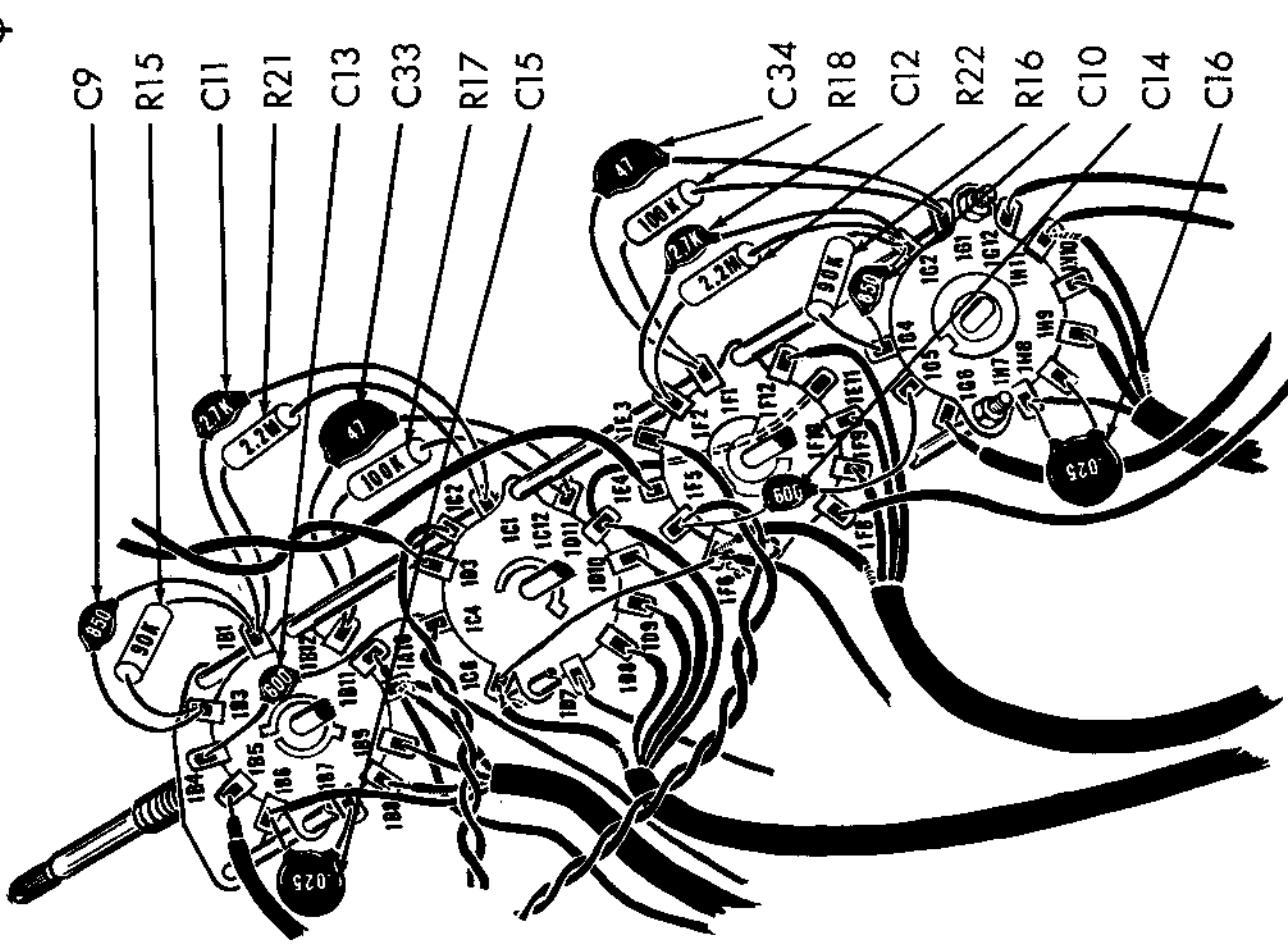

Fig. 1
1. ( ) Fig. 1. Cut all leads on two .025 mfd (.25K or 25,000 mmf) disc capacitors, C15 and C16, to  $\frac{3}{4}$ ". Cover each lead with a  $\frac{1}{2}$ " piece of spaghetti. Connect C15 from S1B-6 (Q) to S1B-7 (S). Connect C16 from S1H-7 (Q) to S1H-8 (S).
2. ( ) Fig. 1. Cut all leads on two 90K $\Omega$  (white, black, orange, gold) 5% resistors, R15 and R16, to  $\frac{1}{2}$ ". Connect R15 from S1B-3 (Q) to S1B-1 (Q). Connect R16 from S1G-2 (Q) to S1G-4 (S).
3. ( ) Fig. 1. Cut all leads on two 850 mmf disc capacitors, C9 and C10, to  $\frac{3}{4}$ ". Connect C9 from S1B-3 (S2) to S1B-1 (Q). Connect C10 from S1G-2 (Q) to S1G-4 (S2).
4. ( ) Fig. 1. Cut all leads on two 2.2M $\Omega$  (red, red, green, silver) 10% resistors, R21 and R22, to  $\frac{1}{2}$ ". Connect R21 from S1B-1 (Q) to S1C-1 (S). Connect R22 from S1F-2 (Q) to S1G-2 (Q).
5. ( ) Fig. 1. Cut all leads on two .0027 mfd (.2.7K or 2700 mmf) disc capacitors, R17 and C12, to  $\frac{1}{2}$ ". Cover each lead with a  $\frac{1}{4}$ " piece of spaghetti. Connect C11 from S1B-1 (S4) to S1C-1 (S2). Connect C12 from S1F-1 (Q) to S1G-1 (Q).
6. ( ) Fig. 1. Cut all leads on two 100K $\Omega$  (brown, black, yellow, silver) 10% resistors, R17 and R18, to  $\frac{1}{2}$ ". Connect R17 from S1B-12 (S2) to S1C-12 (Q). Connect R18 from S1F-1 (Q) to S1G-1 (S2).
7. ( ) Fig. 1. Cut all leads on two 47 mmf disc capacitors, C33 and C34, to  $\frac{3}{4}$ ". Connect C33 from S1B-12 (S2) to S1C-12 (S2). Connect C34 from S1F-1 (S2) to S1G-1 (S2).
8. ( ) Fig. 1. Cut all leads on two 600 mmf disc capacitors, C13 and C14, to  $\frac{3}{4}$ ". Connect C13 from S1B-4 (S1) to S1C-4 (Q). Connect C14 from
9. ( ) Fig. 1. Strip back the outer insulation 1 1/2" from one end of an 8" piece of 3 conductor shielded cable. Twist the shield strands together and cover with a 1 1/4" piece of thick spaghetti. Cut the brown lead to 1 1/4", the red lead to 3/4", and the orange lead to 1". Strip back the insulation 1/4" from the end of each of these leads. Connect the brown lead to S1B-6 (S2), the red lead to S1B-8 (S1), the orange lead to S1B-9 (S1) and the twisted shield strands to S1A-10 (S2). On the other end of the same piece of shielded cable, strip the outer insulation back 3/4". Strip back the insulation 1/4" from the end of each of the inner conductors. This end of the cable does not get connected until later.
10. ( ) Fig. 1. Connect one end of a 3 1/2" piece of black wire to S1A-10 (S2).
11. ( ) Fig. 1. Strip back the outer insulation 1 3/4" from one end of an 8" piece of the 4 conductor shielded cable. Twist the shield strands together and cover with a 1 1/2" piece of thick spaghetti. Cut the brown, red and orange leads to 3/4", each and the yellow lead to 1 1/4". Strip back the insulation 1/4" from the end of each of these leads. Connect the brown lead to S1D-8 (S2), the red lead to S1D-9 (S2), the orange lead to S1D-10 (S2) and the yellow lead to S1D-11 (S2). Connect a 1" piece of bare wire from S1D-11 (S2) to S1E-11 (S2). Connect the twisted shield strands to S1C-6 (S2). On the other end of the same piece of shielded cable, strip the outer insulation back 1 1/4". Strip the shield strands, cut to 3/4" and cover with 1/2" piece of spaghetti. Cut the red, brown, orange, and yellow leads to 1". Strip back the insulation 1/4" from the end of each of the inner conductors. This end of the cable does not get connected until later.
12. ( ) Fig. 1. Strip back the insulation 1 3/4" from one end of a 6 1/2" piece of 3 conductor shield cable. Twist the shield strands together and cover with a 1 1/2" piece of thick spaghetti. Cut the brown and red leads to 3/4", and the orange lead to 1". Strip back the insulation 1/4" from the end of each of these leads. Connect the orange lead to S1F-12 (S2), the red lead to S1F-10 (S2), the brown lead to S1F-9 (S2) and the twisted shield strands to S1F-6 (S2). On the other end of the same piece of shielded cable, strip the outer insulation back 1 1/4". Strip back the insulation 1/4" from the end of each of the orange lead to 3/4" and the brown lead to 1". Cover shield strands with 1/2" piece of spaghetti. Strip back the insulation 1/4" from the end of each of the inner conductors. This end of the cable does not get connected until later.
13. ( ) Fig. 1. Connect one end of a 4 1/2" piece of black wire to S1F-6 (S2).
14. ( ) Fig. 1. Connect a 1 1/2" piece of bare wire from S1C-6 (S2) to S1F-6 (S2).
15. ( ) Fig. 1. Strip back the outer insulation 1 1/4" from one end of a 6 1/2" piece of 3 conductor shield cable. Twist the shield strands together,
16. ( ) Fig. 1. Connect one end of a 4" piece of black wire to S1B-11 (S2).
17. ( ) Fig. 1. Connect one end of a 2 1/2" piece of grey wire to S1B-11 (S2).
18. ( ) Fig. 1. On one end of a 4" piece of single conductor shielded cable, strip the outer insulating back 1/2". Strip back the shield strands together and cut off. Strip back the inner insulation 1/4" and connect to S1B-5 (S2). On the other end of the same piece of shielded cable, strip back the outer insulation 3/4". Strip back the inner insulation 1/4". This end of the cable does not get connected until later.
19. ( ) Fig. 1. Connect one end of a 4" piece of brown wire to S1D-7 (S2).
20. ( ) Fig. 1. Connect one end of a 3" piece of brown wire to S1F-8 (S2).
21. ( ) Fig. 1. On one of a 3" piece of single conductor shielded cable, strip the outer insulated back 1/2". Strip back the shield strands together and cut off. Strip back the inner insulation 1/4" and connect to S1G-6 (S2). On the other end of the same piece of cable, strip the outer insulation back 3/4". Strip back the inner insulation 1/4". This end of the cable does not get connected until later.
22. ( ) Fig. 1. Connect one end of a 3" piece of grey wire to S1G-12 (S2).
23. ( ) Fig. 1. Connect one end of a 5" piece of grey wire to S1D-3 (S2) and one end of a 5" piece of yellow wire to S1E-4 (S2). Twist the two leads together loosely.
24. ( ) Fig. 1. Connect one end of a 4 1/2" piece of green wire to S1C-2 (S2) and one end of a 4 1/2" piece of blue wire to S1C-4 (S2). Twist the two leads together.
25. ( ) Fig. 1. Connect one end of a 5 1/2" piece of violet wire to S1E-3 (S2) and one end of a 5 1/2" piece of white wire to S1F-5 (S2). Twist the two leads together.